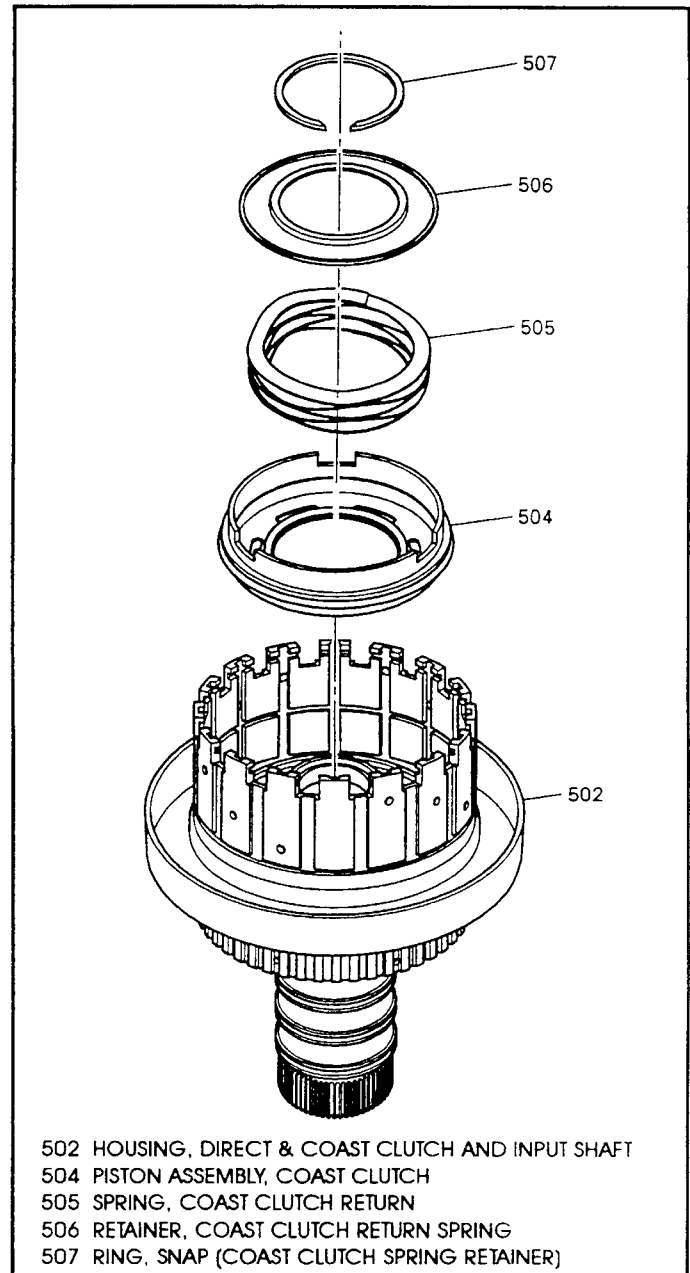

Figure 128
3. Install the coast clutch piston and seal assembly into the input housing with a rotating motion, as shown in Figure 128.
4. Install the coast clutch return spring on top of the coast clutch piston (See Figure 128).
5. Install the coast clutch return spring retainer on top of the return spring with the inner lip facing up, as shown in Figure 128.
6. Lay the snap ring on top of the retainer, shown in Figure 128.
8. Install the coast clutch spring retainer snap ring onto the input housing (See Figure 128).